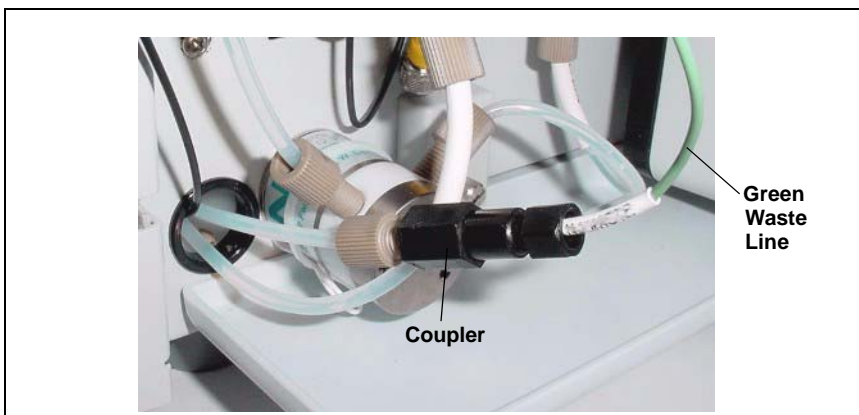

Figure 8. Injection Valve Waste Line Coupler
A coupler (see Figure 8) connects the green waste line from port **W (6)** to a 3-mm (1/8-in) ID PTFE waste line. The waste line is routed through the tubing chase to the IC system rear panel.